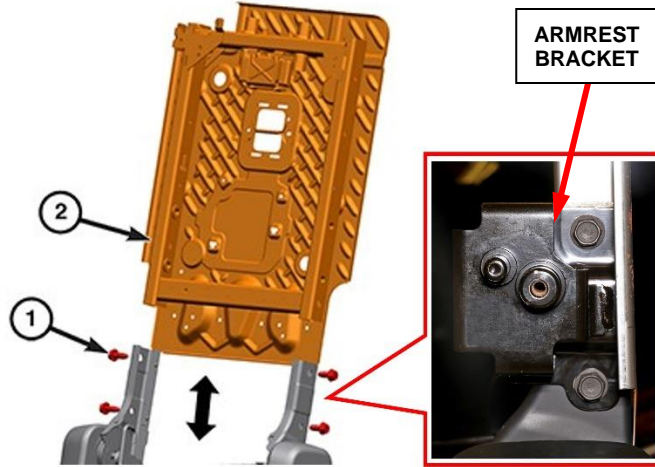

Figure 88 – Seat Back Frame
35. Remove the four bolts (1) and armrest bracket from the seat hinges (Figure 88).
36. Lift the seat back frame (2) to remove it from the seat hinges then place it on a work surface for further disassembly (Figure 88).
44. Position the seat back frame (2) to the seat hinges then install the armrest bracket and four seat back bolts (1) two on each side. Tighten the bolts to 60 N·m (44 ft. lbs.) (Figure 88).